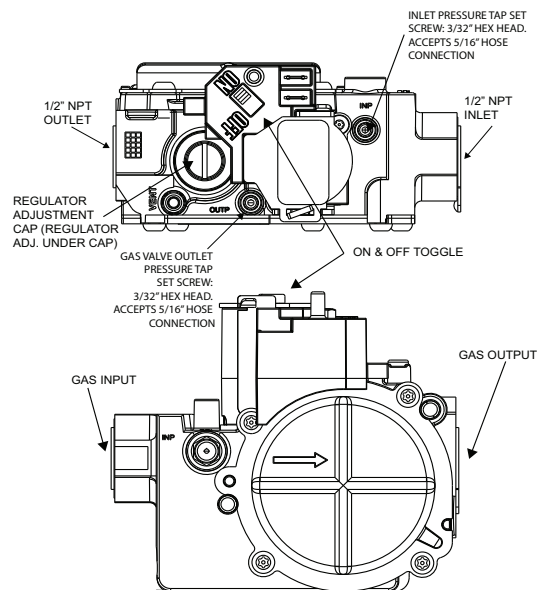

Fig. 68 – Gas Control Valve
- b. Loosen set screw on outlet tower pressure tap no more than one full turn with a 3/32 in. hex wrench, see Fig. 68.